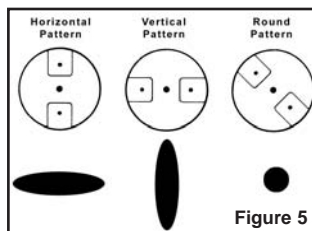

Figure 5
- Spray pattern shape (see Figure 5) - loosen the lock ring and turn the nozzle for the desired spray pattern. Hand tighten the lock ring after adjustment.